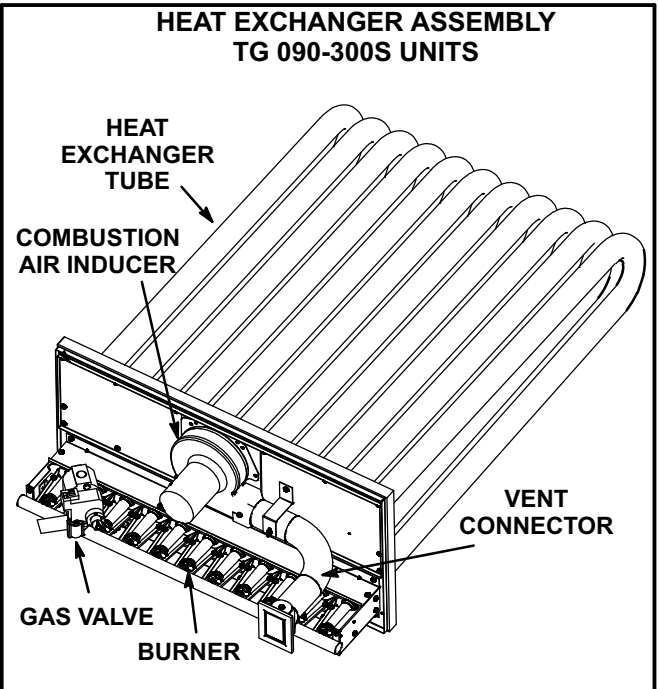

FIGURE 5
- 5- On 024-072 and KG 090 units, remove vent connector. On 090-300S units, remove and retain two screws from the bracket supporting the vent connector before removing vent connector. See figure 5.